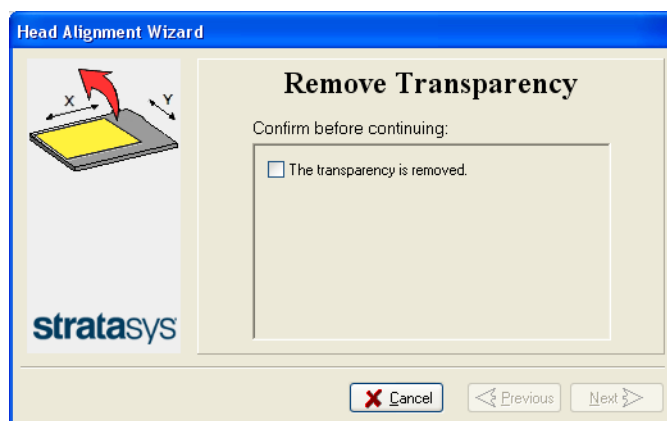

Figure 6-53 Head Alignment wizard—steps 8–10
10. In the wizard screen shown in Figure 6-53, select the *Transparency removed* check box, and click Next.